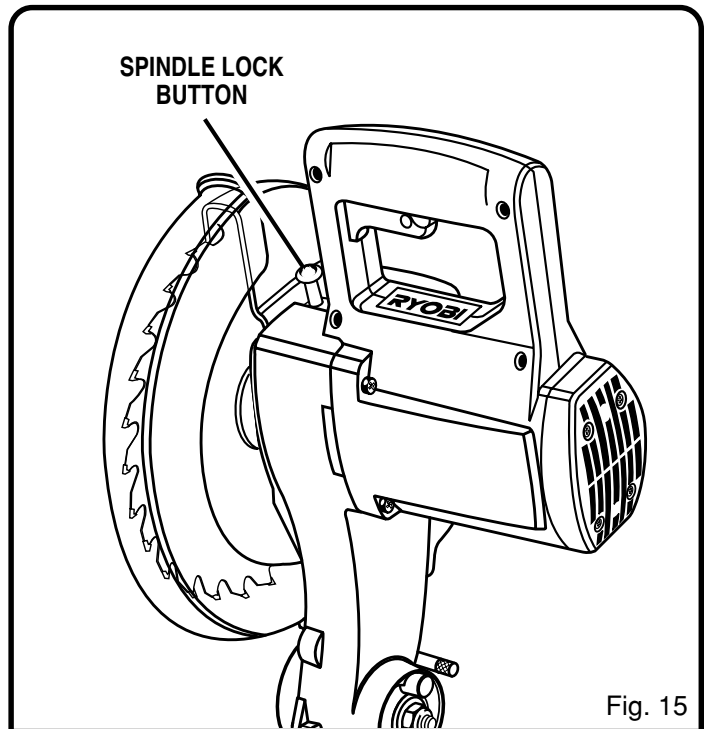

Fig. 15
See Figures 15 and 16.
- Using the wrench provided, loosen and remove the blade bolt. See figure 15.